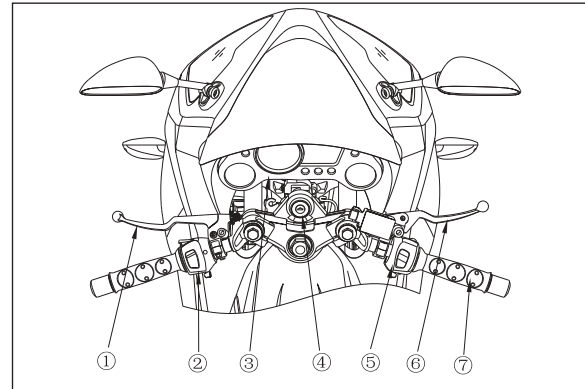

Figure 3 Front Vehicle part
3. Front Vehicle Part (Figure 3):
- ① Clutch lever
- ② Left handlebar switch set
- ③ Instrument
- ④ Ignition switch lock set
- ⑤ Right handlebar switch set
- ⑥ Front brake lever
- ⑦ Throttle handle
“Ignition switch” setting is underneath the instrument (Refer to Figure 3). Turn on the ignition switch before starting the motorcycle. Refer to Table 2 for key location and functions: